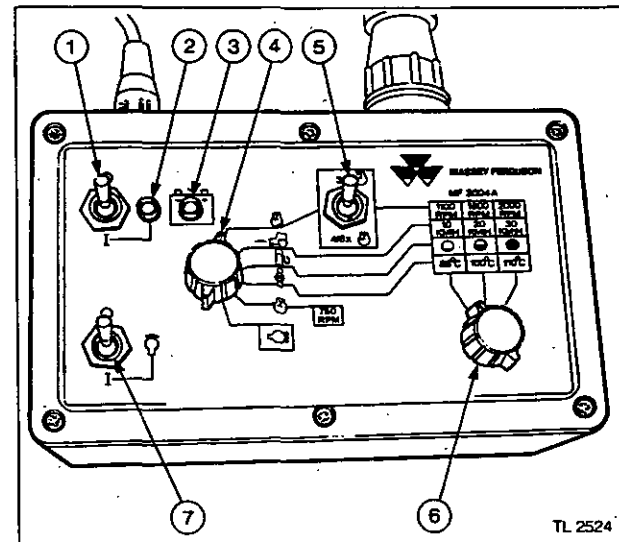

Fig.7
6. Connect the test lead plugs (3) to the warning lights.
7. Connect the test lead to the fuel/water temperature gauges (4).
9. Switch 'ON' the unit (1 Fig.7).
10. The red light (2) will indicate that the power is on.
11. The green light (3) 'ON' indicates that there is sufficient power in the battery to operate the tester. If the green light does not illuminate try another battery.
**TEST 1 Checking the tachometer (Figs. 7 and 8)
Second position on the function selector switch (4 Fig.7). This test is not applicable to this instrument panel.
TEST 2 Checking the fuel gauge (Figs.7 and 9)
TEST 3 Checking the water temperature gauge (Figs. 7 and 9).
TEST 4 Checking the warning lights (Fig. 7)
TEST 5 Checking the instrument panel lights (Fig. 7)